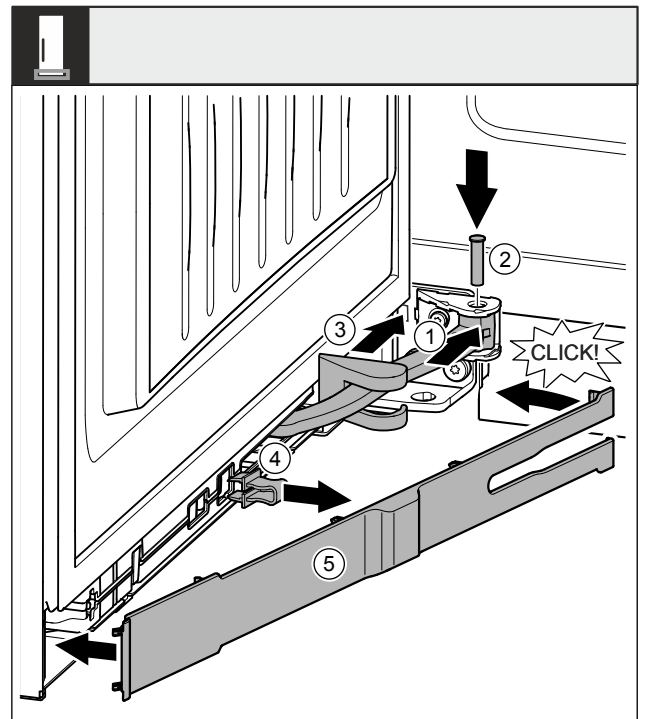

Fig. 54
- ▶ Turn the joint Fig. 54 (1) in the attachment.
- ▶ Use a screwdriver to insert the bolt Fig. 54 (2) into the attachment and the joint. Ensure that the latching cam is in the groove properly.
- ▶ Push the swap bearing block cover Fig. 54 (3) along the joint and use the attachment to fit it.
- ▶ Remove the safeguard Fig. 54 (4).
- ▶ Place the trim *Fig. 54 (5)* on the handle side and swing in.